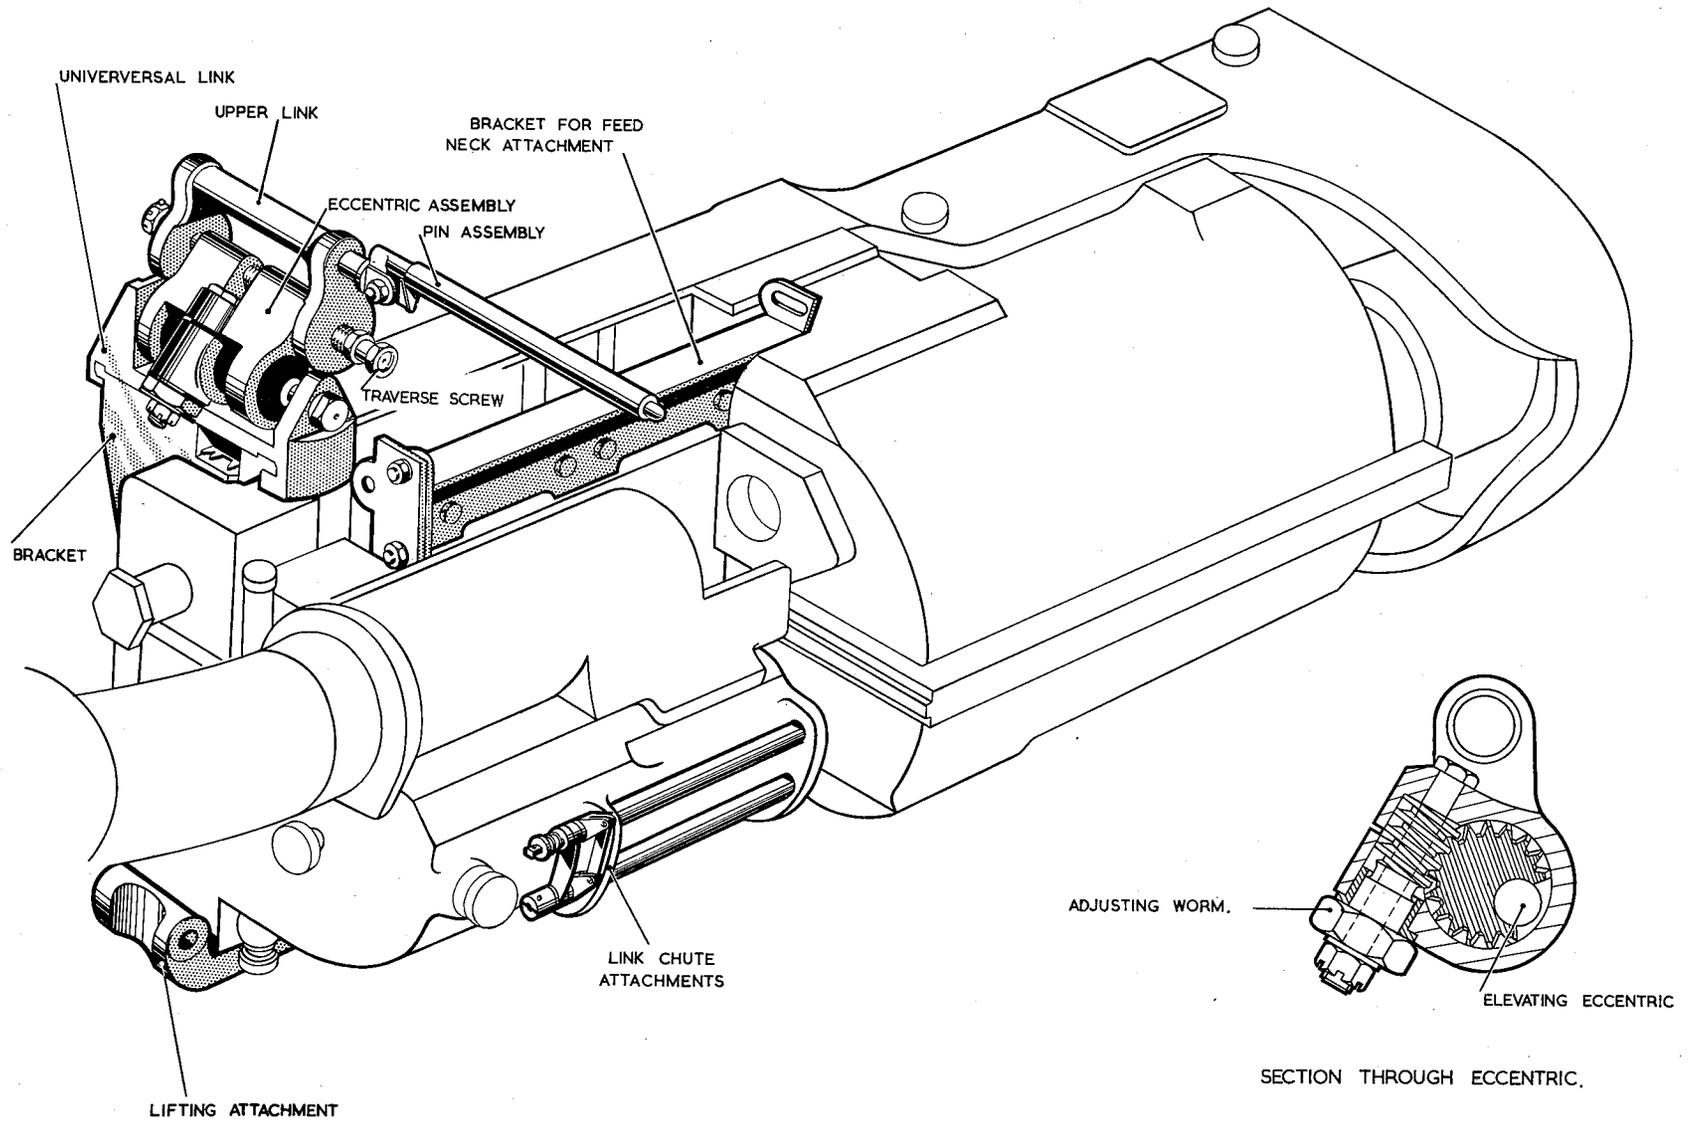

Fig.2 Gun rear mounting, attachment bracket and fittings
Gun fittings (fig.2)
Rear mounting (fig.2)
6. The gun rear mounting, which also forms the harmonization assembly, is illustrated in fig.2. The rear mounting engages with the mounting bracket bolted to the rear of the gun cradle (*para.4*), and the upper link is attached by the gun rear mounting pin assembly to two fittings on frame 15. The assembly consists of a traverse screw and locking sleeve. This screw carries a threaded housing containing a worm-driven eccentric assembly, which supports, by an attachment bolt, a stirrup-shaped universal link for attachment to the gun. The traverse screw and locking sleeve assembly is, as its name implies, used to traverse the gun during harmonization. When the locking sleeve is slackened, rotation of the traverse screw will move the eccentric and housing assembly along the thread of the screw, thus traversing the gun horizontally according to the rotation of the screw. After adjustment, the locking sleeve must be re-tightened to lock the assembly. The eccentric assembly is employed, during harmonization, to elevate the gun to the required angle. Thus, when the nut on the bolt passing through the